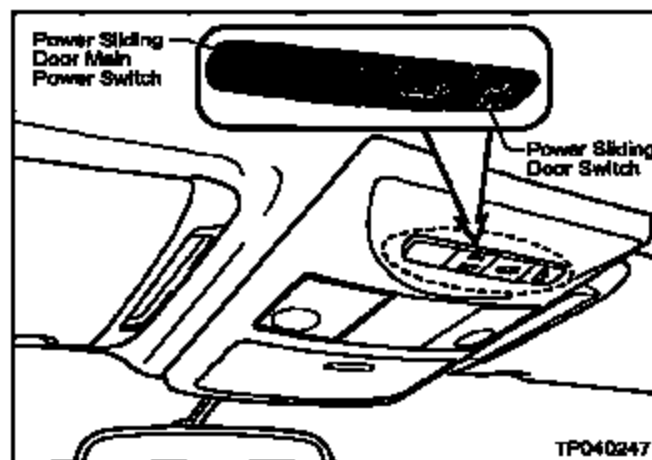

Figure J36
50. Make sure the Power Sliding Door Main Power Switch is OFF (see Figure J36).